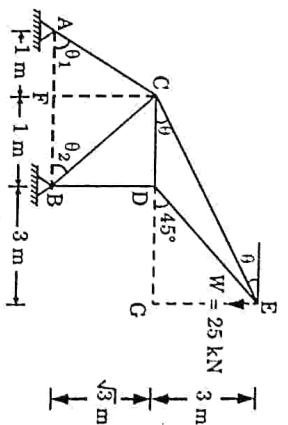

Fig. 3.4.1.
**Que 3.4.** Calculate the deflection under the load for truss shown in Fig. 3.4.1. All the members are have equal areas of 1250 mm2 in cross section and E = 200 kN·m2.